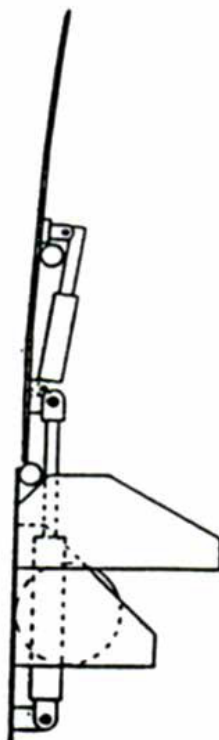

Figure 3
2. Depress and hold RAISE (A) button until leveler extends fully (Figure 3).